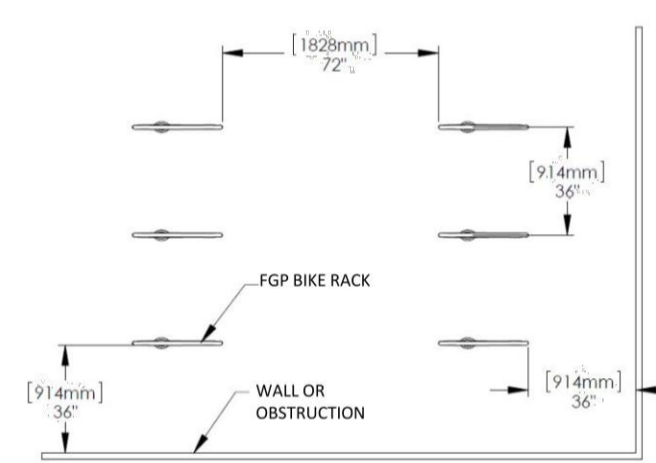

Fig. 1 - Recommended spacing, according to Association of Pedestrian and Bicycle Professionals (APBP), 2nd edition
3. Install set screw (B) in one end of the unit. Allow for access to set screw once unit has been installed.
5. Using the 3/16" hex wrench, adjust the (4) leveling glides to level and plumb the unit (see Figures 1, 4).